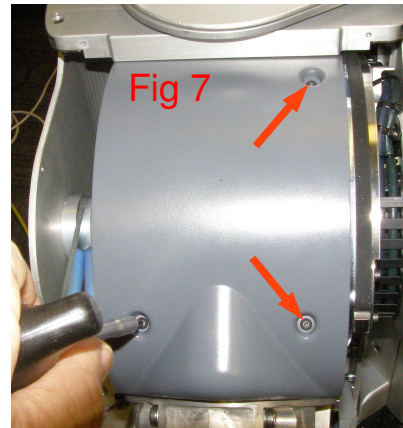

Fig 7
4. Using the 2.5mm bit with the T-handle driver, remove 3 Panhead screws. 2085-10 (Fig 7)
1. Using Loctite 248, and the 2.5mm bit install the 3 Panhead screws and torque to 0.80Nm using the Small torque driver. Bias the cover towards the Robot to insure there is a small gap between it and the Upper Arm. (Fig 7,8)